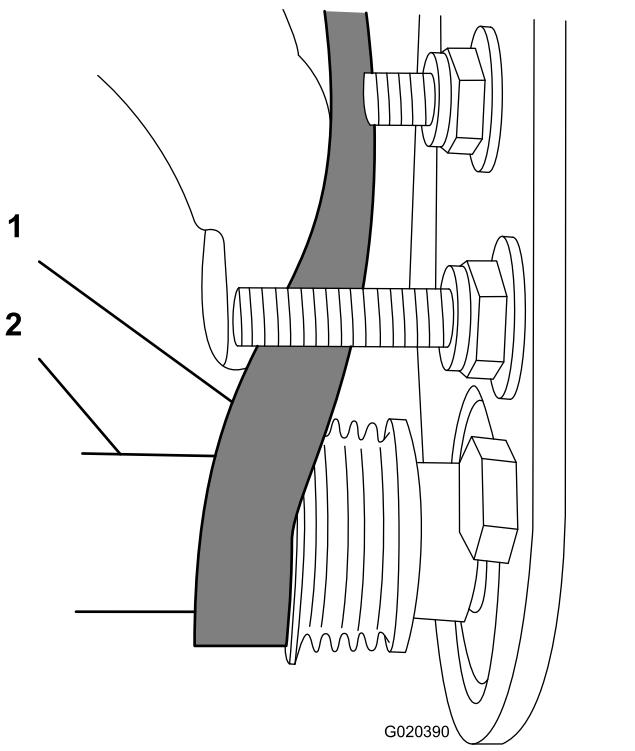

Figure 25
C. Use a 9/16-inch deep-well socket to rotate the brush assembly and guide the belt onto the driven pulley (Figure 25).